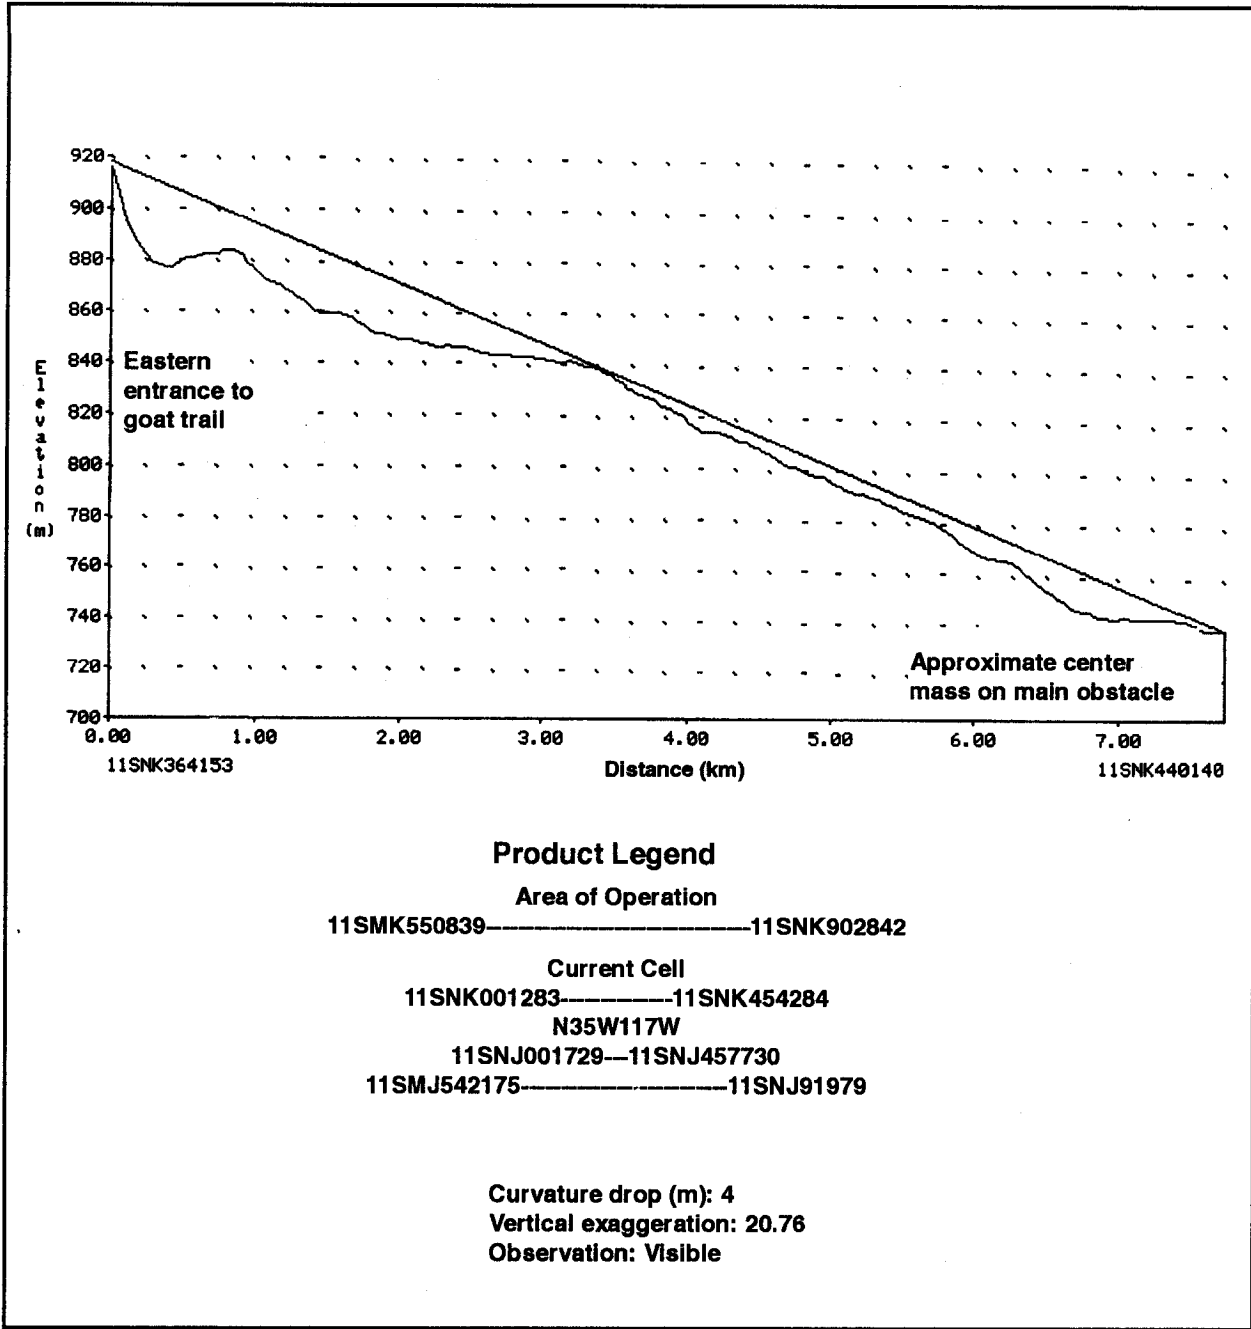

Figure C-2. LOS
- LOS profile. This product is a direct LOS from point to point using a six-digit universal transverse mercator (UTM) grid coordinates for each point. It can be used to determine the LOS for radio, retrans, and radar sites (see *Figure C-2, page C-4*).